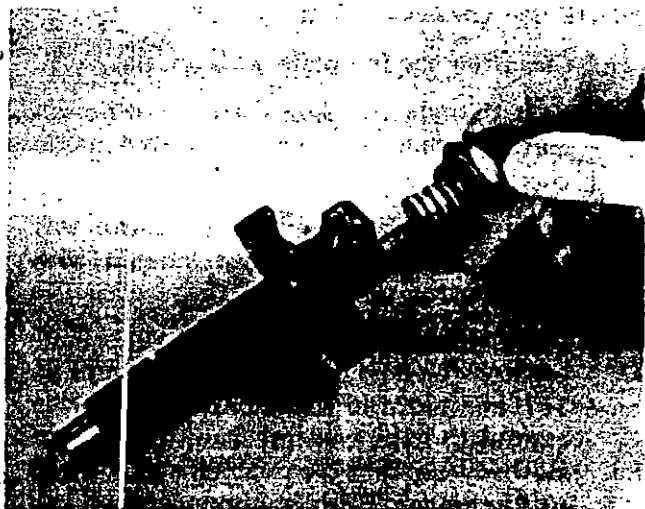

Figure 111A
9. Inspect the spindle and spring for damage or wear. If any pitting or corrosion is found on the spring, it must be discarded. Figure 111A.